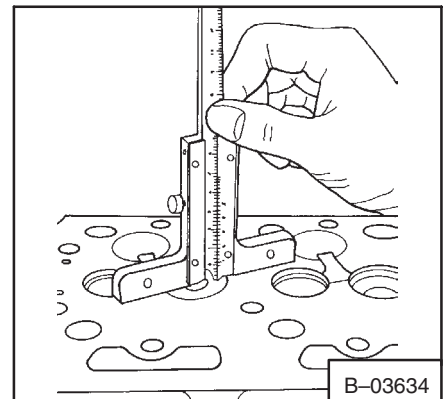

**Fig. 7C-34** Grinding The Valve Seat
10. Install the valve in the seat and check depth (Fig. 7C-35).